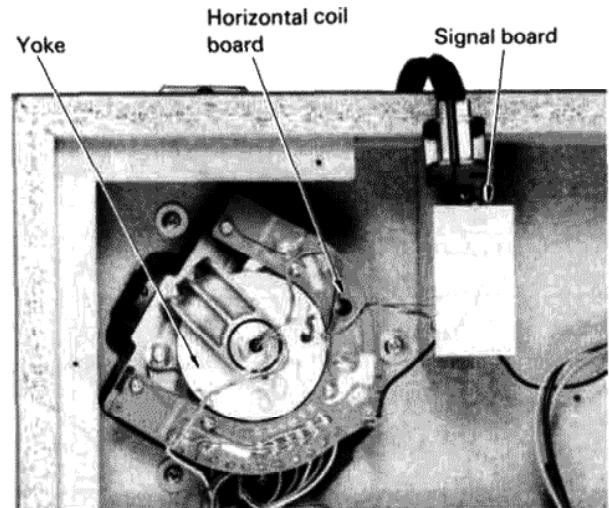

Fig. 27
■ Removal of horizontal coil P.C. board (Fig. 27)